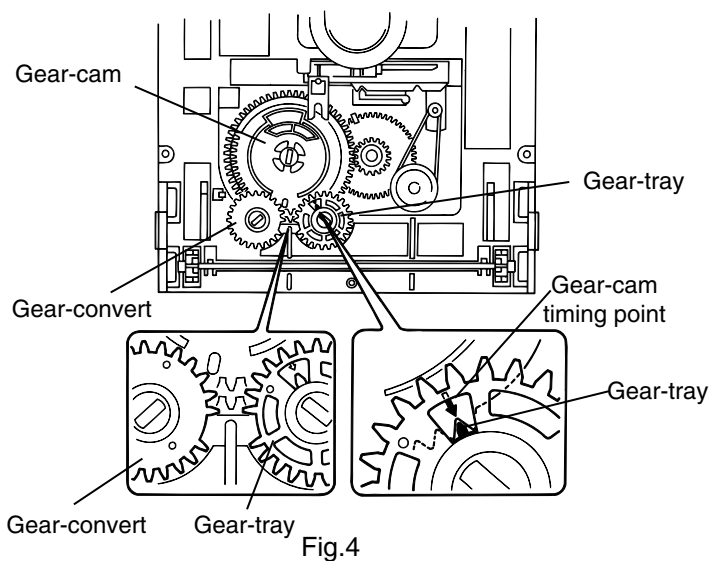

Fig.4
■ Reinstall the CD tray (See Fig.4 and 5)
1. Align the gear-cam with the gear-tray as shown fig.4, then mount the CD tray.
(Fig. 4)